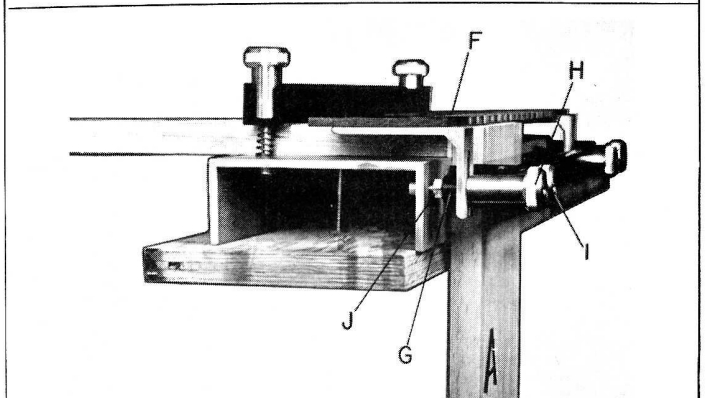

Fig. 8
Insert board (B) between top clamping bar and top surface of dovetail base with bottom edge against left stop screw and flush with extended portion of board (A). Tighten top clamp knobs (E) to hold board (B) securely. Attach dovetail template (F) to the dovetail base with spacers (G) located inside brackets (See Fig. 8). Holding template flat on boards with one hand, tighten template clamp knobs (H) securely. Be sure Template finger ends are parallel to edge of board (B) to assure even fit after cutting. Relocate board (A) so that it is flush with the top of board (B) and against stop screw in left front of dovetail base. Tighten front clamp knobs (I) to hold board (A) securely.
IF THE FIT IS TOO DEEP, turn lock nut (J, See Fig. 8) in a counter-clockwise direction until desired depth is reached. (Adjust lock nuts equally and carefully.)
IF THE FIT IS TOO SHALLOW, turn lock nut (J, See Fig. 8) in a clock-wise direction until desired depth is reached.
Insert board (B) between top clamping bar and top surface of dovetail base with bottom edge against left stop screw and flush with extended portion of board (A). Tighten top clamp knobs (E) to hold board (B) securely. Attach dovetail template (F) to the dovetail base with spacers (G) located inside brackets (See Fig. 8). Holding template flat on boards with one hand, tighten template clamp knobs (H) securely. Be sure Template finger ends are parallel to edge of board (B) to assure even fit after cutting. Relocate board (A) so that it is flush with the top board (B) and against stop screw in left front of dovetail base. Tighten front clamp knobs (I) to hold board (A) securely. Loosen top clamp knobs (E) and remove board (B) from the base and replace with a piece of scrap lumber of the same wood. This provides support in area of cut in board (A) which prevents splintering as the cutter bit moves through cut.
IF THE FIT IS TOO DEEP, turn lock nut (J, See Fig. 8) in a counter-clockwise direction until desired depth is reached. (Adjust lock nuts equally and carefully).
IF THE FIT IS TOO SHALLOW, turn lock nut (J, See Fig. 8) in a clockwise direction until desired depth is reached.